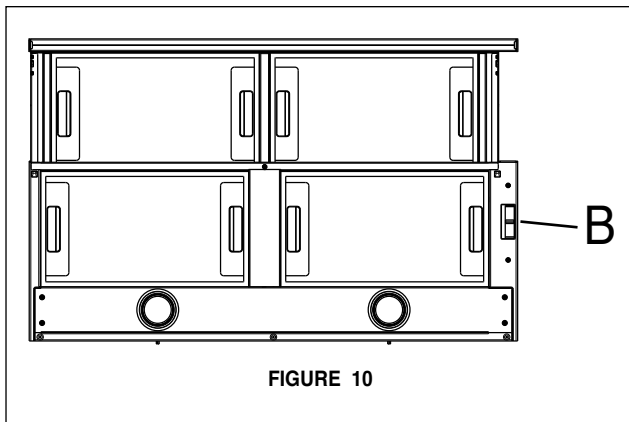

FIGURE 10
**B** in FIGURE 10 shows the speed control switch for the blower. Moving the switch to the 1 Position turns the blower on LOW. Moving the switch to the 2 Position turns the blower on MEDIUM. Moving the switch to the 3 Position turns the blower on HIGH. Moving the switch to the 0 Position turns the blower off.